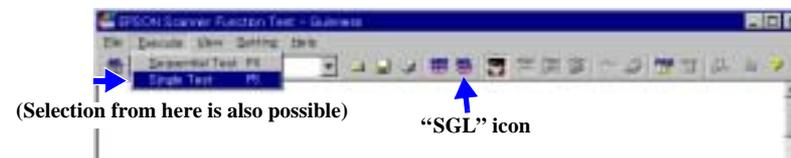

Figure 5-15. Single Test Dialog Display
3. When the window shown in the figure is displayed, click the “SGL” icon on the toolbar. (See Figure 5-15)